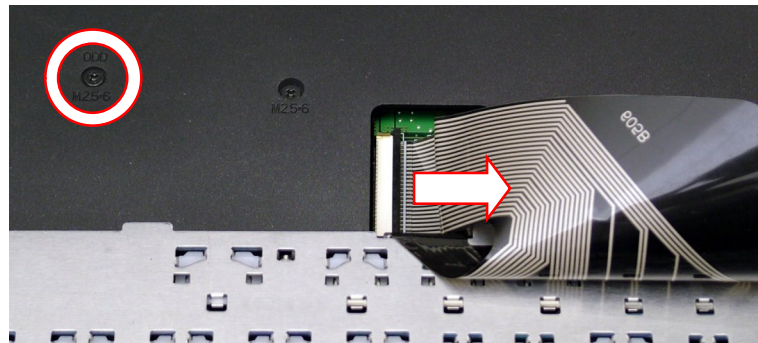

Fig. 13 Disconnecting keyboard flat cable.
1. Remove the screw (marked "ODD") securing the optical disk drive (see Fig. 13).